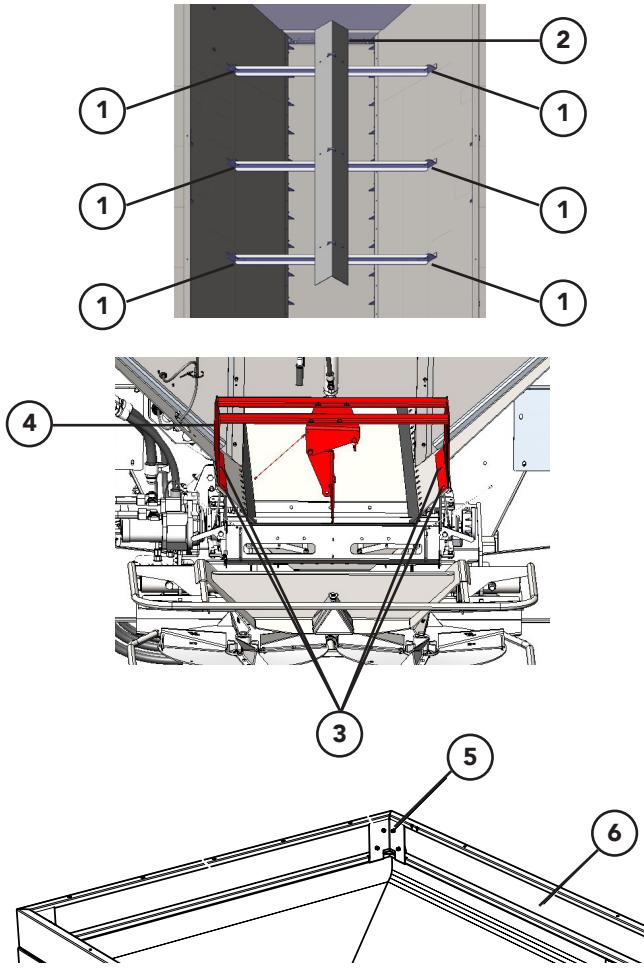

Figure 1A
1. Figure 1A - Remove Hardware (1) and Inverted "V" (2).
2. Remove Hardware (3) and Hillside Divider (4).
3. Remove Hardware (5) and Side Boards (6) from the spreader, if so equipped, and set hardware aside. Replace chain shield hardware (3) from Hillside Divider and torque to specification.